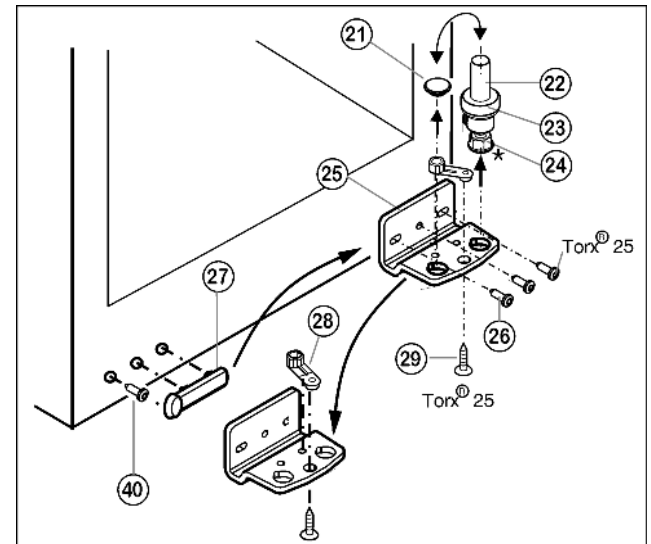

Fig. 5
- Lift out the bearing pin Fig. 5 (22) together with washer Fig. 5 (23) and adjustable-height foot\* Fig. 5 (24).
- Lift off the stopper Fig. 5 (21).
- Unscrew Fig. 5 (26) the turn hinge Fig. 5 (25).
- Unscrew Fig. 5 (29) the bearing element Fig. 5 (28), transfer it to the opposite location hole of the turn hinge and screw it firmly into place.
- Carefully lift off the cover on the handle side Fig. 5 (27), undo the screw Fig. 5 (40) and transfer both to the opposite side.
- ▶ Screw the turn hinge *Fig. 5 (25)* firmly into place on the new hinge side, possibly using a cordless screwdriver (**with 4 Nm**).
- ▶ Re-insert the stopper *Fig. 5 (21)* into the other hole.
- ▶ Re-insert the bearing pin *Fig. 5 (22)* together with the washer and adjustable-height foot\*. In so doing, pay attention that the locating lug points backwards
- ▶ Place the door from above onto the lower bearing pin *Fig. 5 (22)*.
- ▶ Insert the upper turn hinge (12) in the door on the new hinge side.
- ▶ Screw the upper turn hinge (12) **firmly** into place (**with 4 Nm**)(2x Torx® 25) (13). Possibly make preliminary holes with a bradawl or use a cordless screwdriver.
- ▶ Snap the cover (10) and cover (11) into place at the opposite side.
- ▶ Align the door to the appliance housing by way of the two oblong holes in the bottom turn hinge *Fig. 5 (25)*. To do so, unscrew the middle screw.